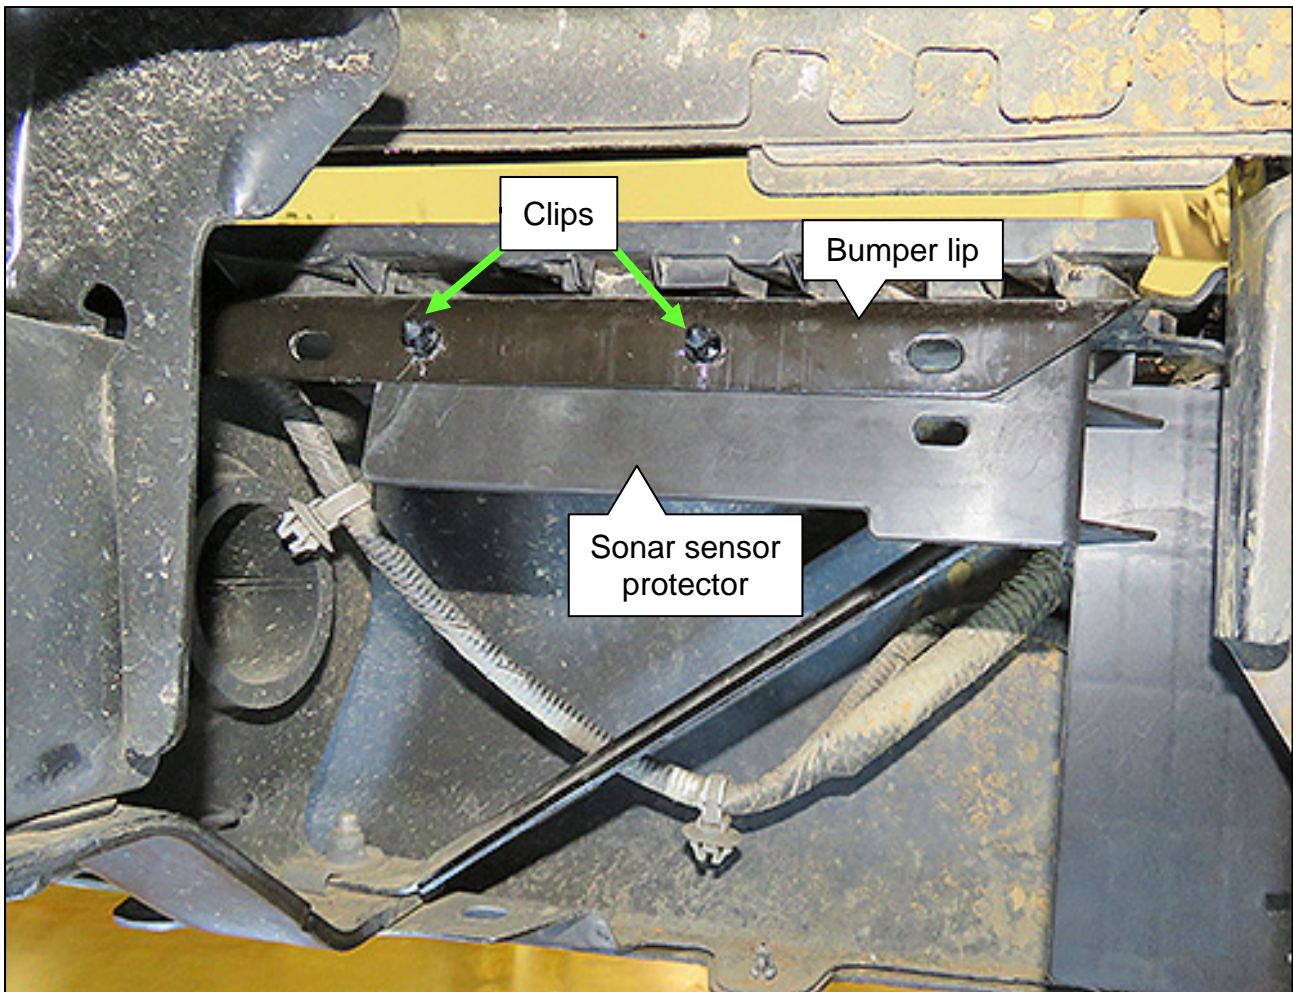

Figure 7
5. Install the sonar sensor protector to the back side of the bumper lip (Figure 7).
6. Insert two (2) clips, first through the back side of the sonar sensor protector, and then the bumper lip, with inserted tip facing toward the front of the vehicle as shown in Figure 7.